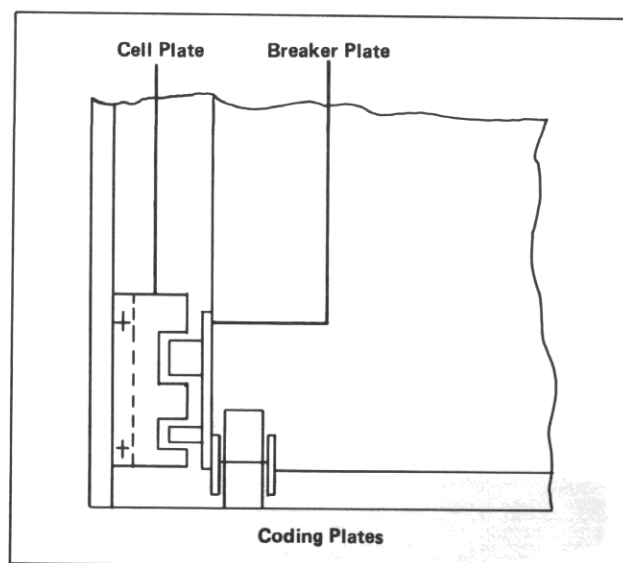

Fig. 27 Coding Plates
1. **Breaker-Cell Coding Plates** — This is a combination of a notched plate in the cell and interference bars on the breaker so that only appropriately rated breakers can be put into the cell. Fig. 27.